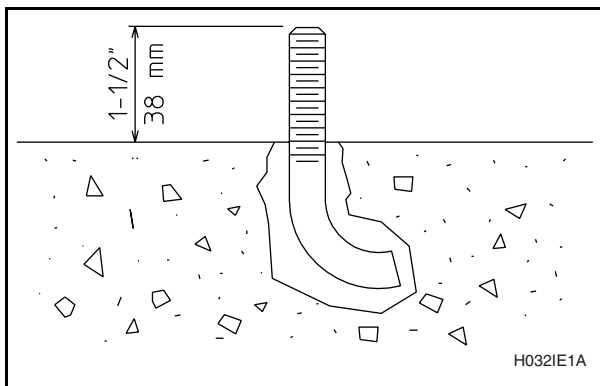

Figure 25
5. Use compressed air or a squeeze bulb to remove debris from each hole. Anchor J-bolt in place, using an industry-accepted anchoring compound. Verify that the J-bolts are in the correct locations and that 1-1/2 inches (38 mm) of each J-bolt protrude from the floor. See Figure 25.